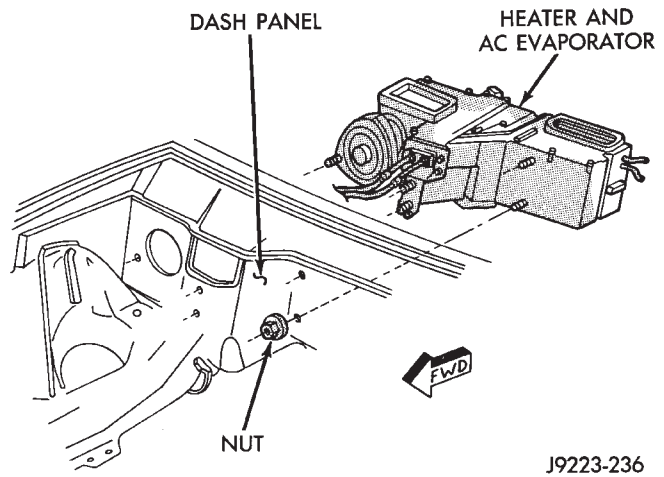

Fig. 24 Heater and A/C Evaporator Unit Retaining Nuts
(6) Remove the heater and A/C evaporator unit from the dash panel (Figs. 24 and 25).